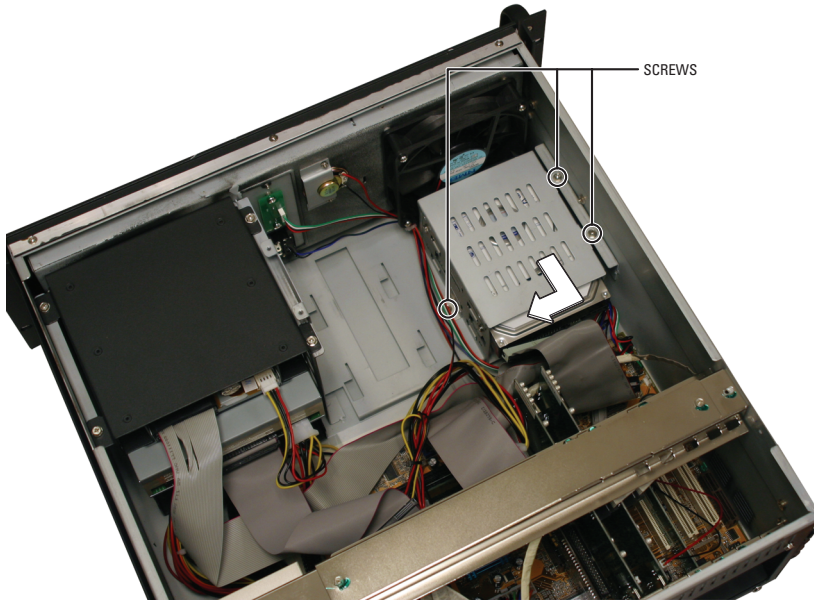

Figure 5. Removing the Two-Position Hard Drive Cage
6. Remove the card cage that holds two hard drives (refer to Figure 5):